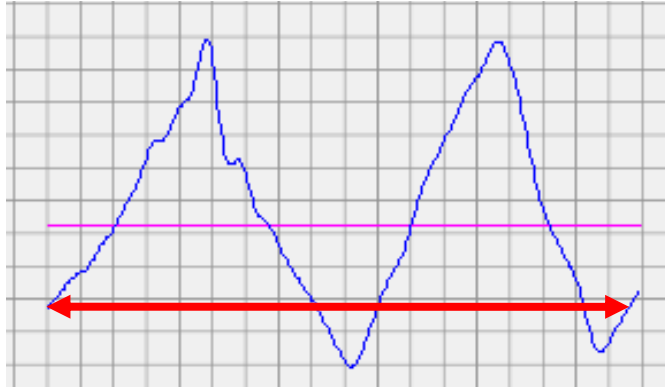

Fig 2.5
13. You now have to confirm that the starting point of the angular graph and its end part (see fig 2.5) continue one another, if not, you probably did not measure the whole engine perimeter or this is a different recurring engine (motor) problem, it is recommended to measure again after making sure that the ball is clean.